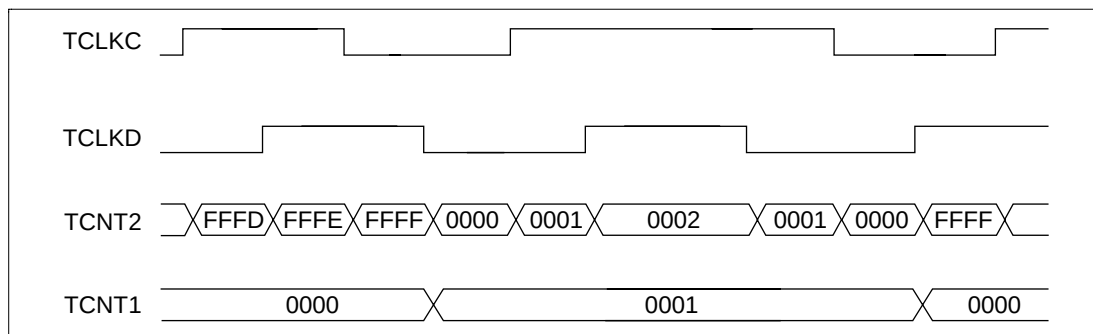

**Figure 12.23 Cascade Connection Operation Example (Phase Counting Mode)**
**Cascade Connection Operation Examples—Phase Counting Mode:** Figure 12.23 shows an example of operation when the TCNT1 counter is set to count on TCNT2 overflow/underflow and channel 2 is set to phase counting mode.